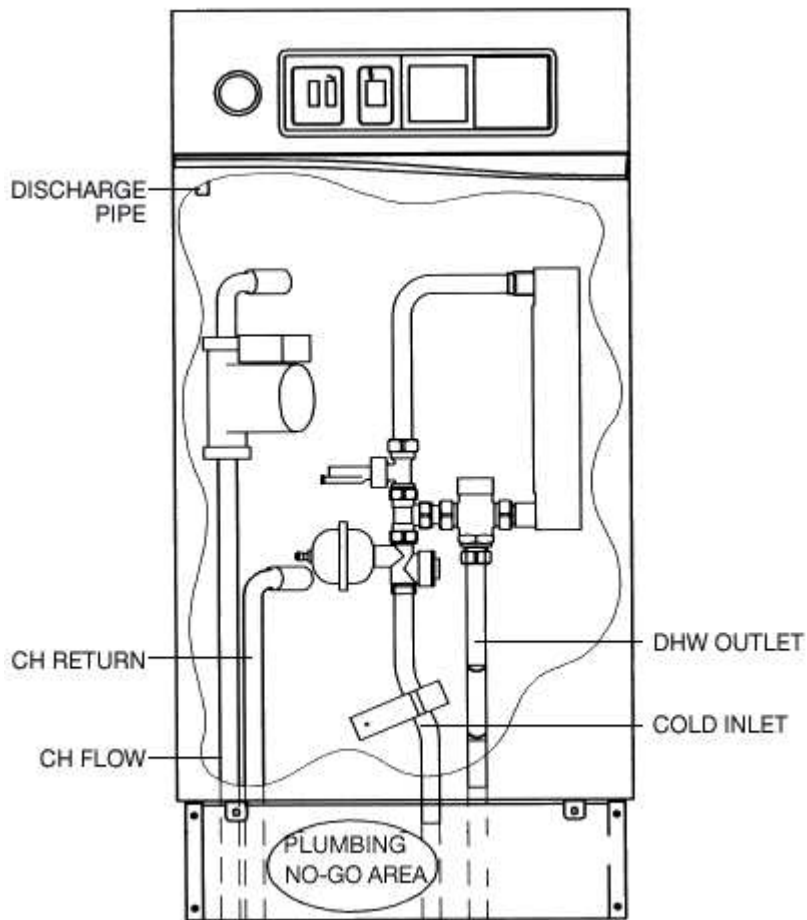

Fig. 11.1 Water connections
2. Carefully set aside the outer covers. Remove small press-out panel(s) either side of casing for plumbing connection (and flue/air pipes) as necessary. The hand hold cut outs in the side panels also provide convenient plumbing access. The cut out in the base allows pipework to be brought up from floor level, see Plumbing Guide on page 23, but the pipes **must not obstruct service access to the sump**. See Fig. 11.1.
These are on the LH side of the unit; the flow is taken from below the pump. Pipework can be run inside the casing but **must not prevent the removal of the flue collector sump** – see **NO GO area in Fig. 11.1**. See also the plumbing layout Guide on page 23.